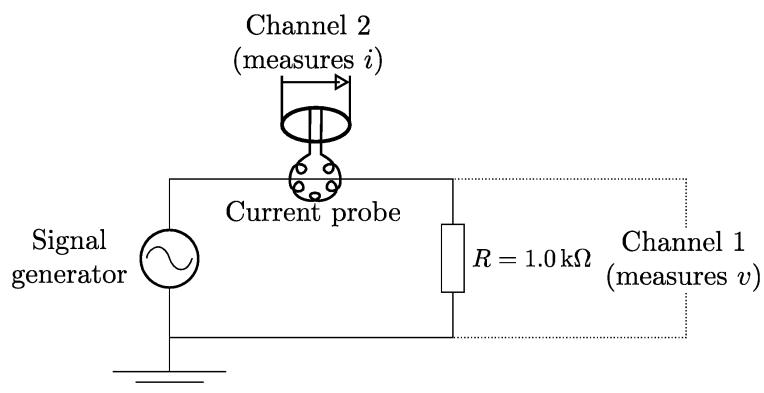

Figure 6: Measuring resistance in an AC circuit.
- Connect the circuit in Figure 6 after first checking the resistor value with the multimeter. Connect the signal generator and the resistor first, using the special lead running through the current probe box.